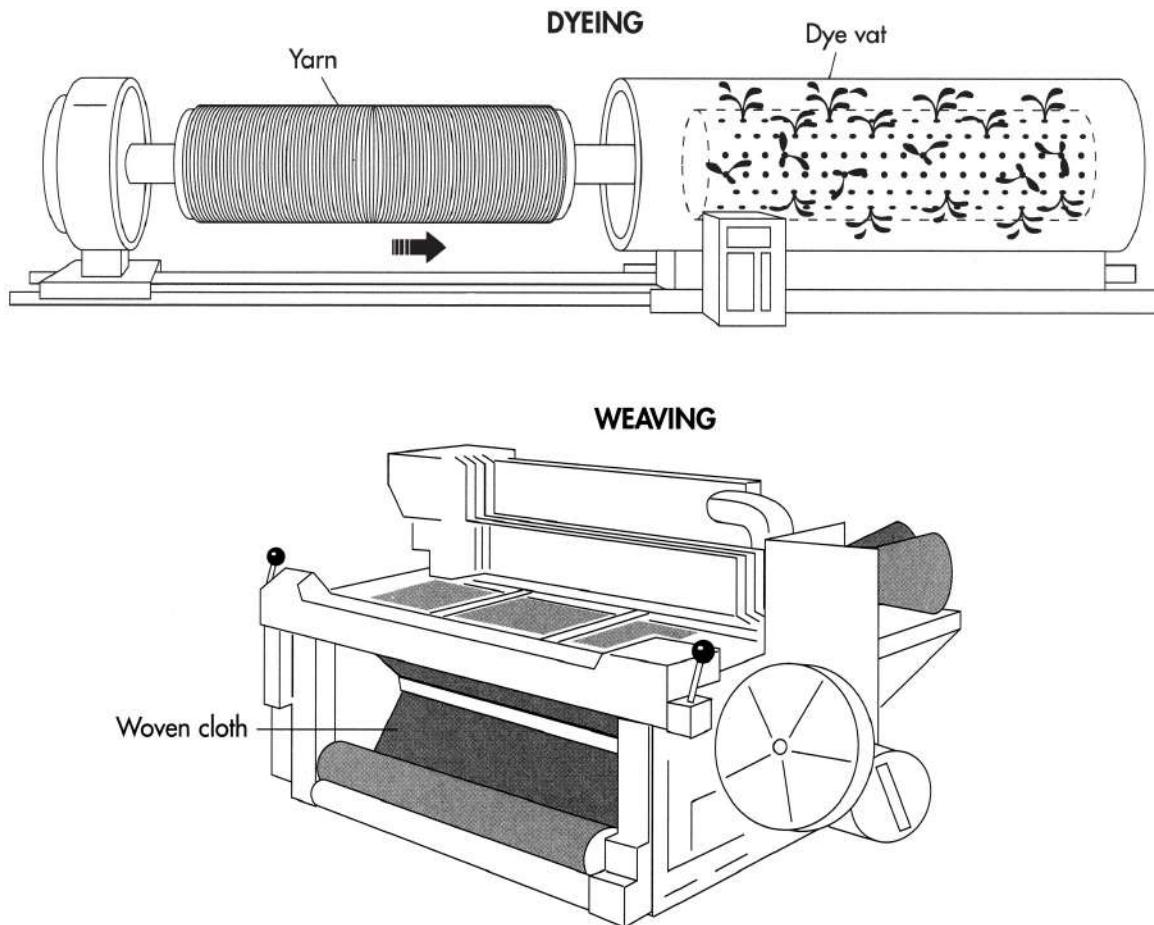

Figure 2. Before the yarn is woven, the denim is dipped in the dye vat several times so that the dye forms many layers.
3. Some cloths are woven (see step 5) and then dyed, but denim is usually dyed before being woven. Large balls of yarn, called ball warps, are dipped in synthetic indigo several times so that the dye covers the yarn in layers (see figure 2). The multiple layers of indigo dye explain why denim jeans fade slightly with each washing. Although the exact chemicals used in the dyeing process remain trade secrets, it is known that a small amount of sulfur is added to stabilize the top or bottom layer of dye.
5. Next, the yarn is woven on large mechanical looms (see figure 2). Denim is not 100 percent blue, since the blue-dyed threads forming the warp (long, vertical threads) are combined with white threads forming the weft (shorter, horizontal threads). Because the blue threads are packed more closely together than the white, the blue color dominates.